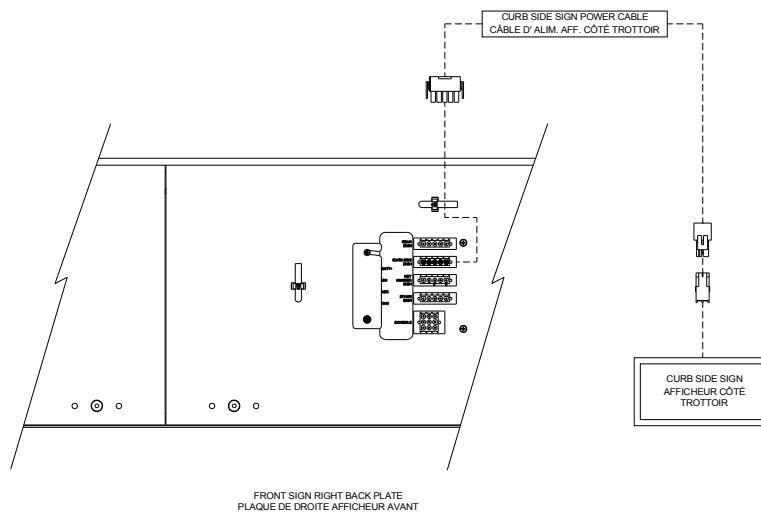

Figure 12: Curb Side Sign Cable Connection
- Connect the power cable (5-pin connector) to the **CURB SIDE SIGN** connector (5-pin connector) located on the Back Plate of the Front Destination Sign. (See Figure 12)